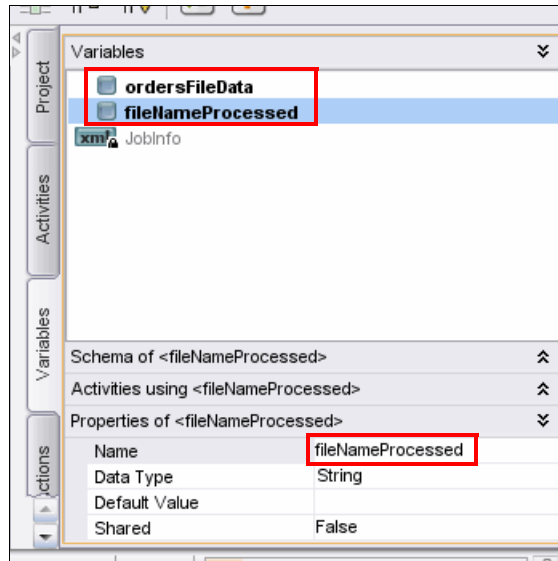

Figure 12-41 Renaming variables
1. Select the **Variables** tab, and change the variables named filename and data to fileNameProcessed and ordersFileData respectively in the Properties panel. Refer to Figure 12-41 on page 492.